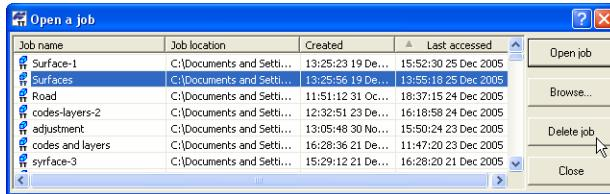

Figure 2-7. Select Job to Delete
1. To delete a job, select the desired job using the *Open a job* or *Startup* dialog boxes and click **Delete** (Figure 2-7). Click **OK** on the confirmation message.